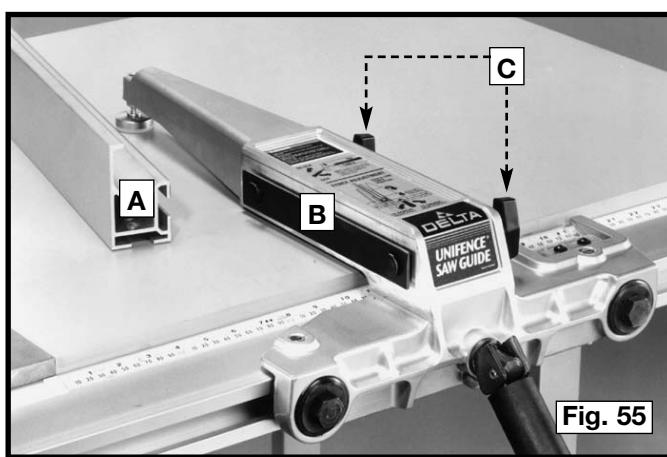
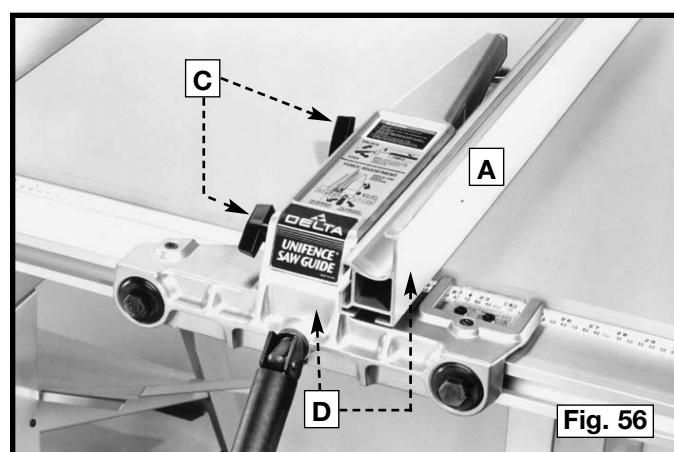

Fig. 55
Fig. 56
In some cases it may be desirable to use the fence on the left side of the saw blade. This is easily accomplished by repositioning the fence (A) Figs. 55 and 56, fence clamp bar (B), and lock knobs (C) so that the fence (A) will be attached to the right side of the fence body, as shown in Fig. 56. The complete fence assembly (D) Fig. 56, can easily be moved to the left side of the saw table.